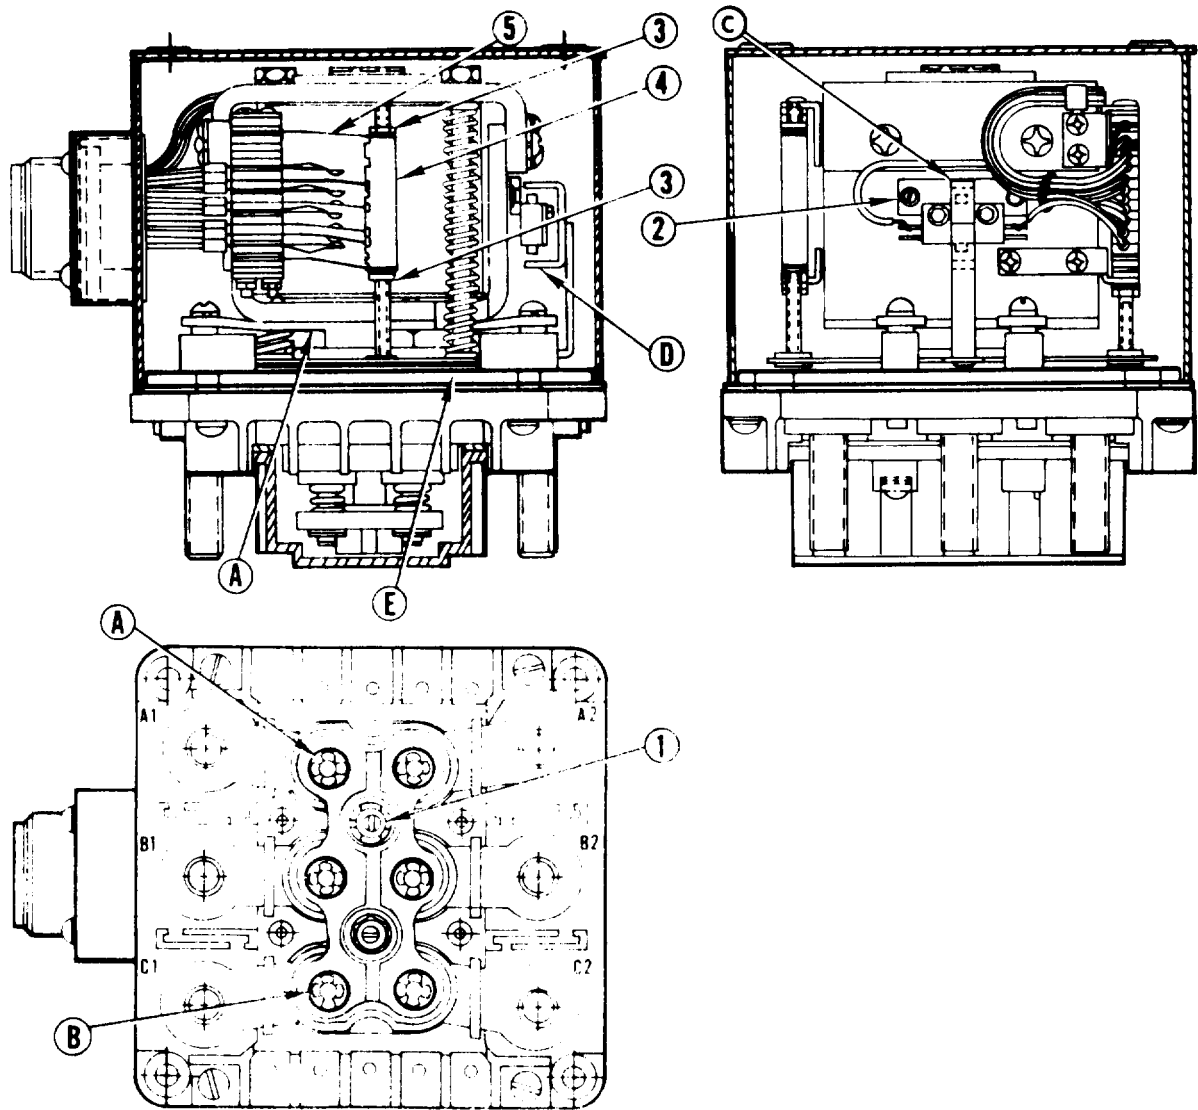

Figure 3-104. Main Load Contactor Adjustments (Type A)
- (18) Install main contact assembly (23) and secure with lockwashers (22) and nuts (21). Adjust contact over travel as follows: (See figure 3-104.)
- (d) Adjust carrier bushing at point (B) (Figure 3-104) until continuity is indicated at terminals A1-A2 and C1-C2.
- (e) Secure adjustment by tightening nuts (1).
- (19) Adjust economizing switch as follows: (See figure 3-104).
- (a) Move loosely installed bracket (3) to transfer switch.
- (b) Check that the switch button is fully depressed, and allow 0.01 inch clearance between the switch button and the top operator (point (C)).
- (c) Insert a 0.010 inch feeler gauge into the core gap (point (A)).
- (e) Bend the tab (point D, figure 3-104) of bracket toward the switch until the switch actuates.
- (20) Adjust auxiliary contacts as follows: (See figure 3-104.)
- (a) Loosen nuts (4) and position lift comb (5) so that the deflection on the guide leaf springs (6) is nearly equal in the energized and deenergized positions.
- (b) Secure adjustment by tightening nuts (4).